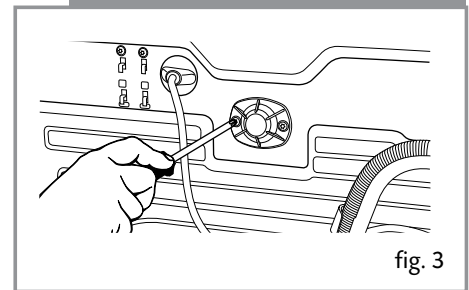

fig. 3
- Loosen and remove the 3 transit bolts (Figure 3).